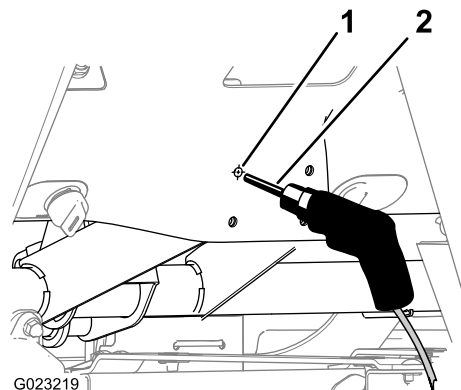

Figure 18
- Locate the center of the outline that you marked in step 4, and mark the location with a center punch. (Figure 18).
- Drill a hole in the dash panel with a 8.5 mm (11/32 inch) drill bit at the center punch location (Figure 18).